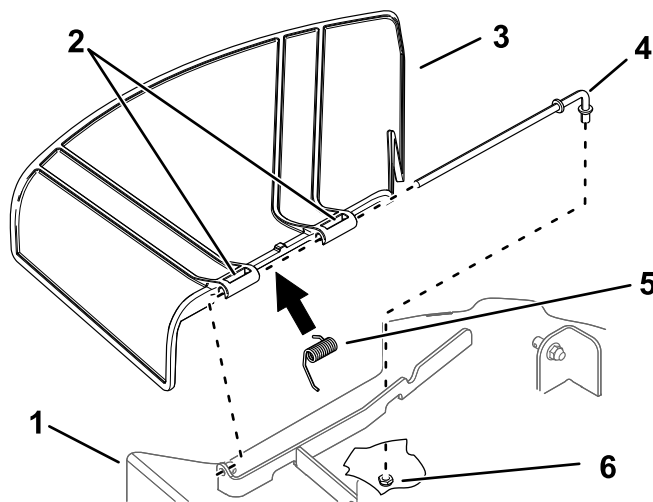

Figure 78
1. Remove the nut (3/8 inch) from the rod under the mower (Figure 78).
2. Slide the rod out of the deck bracket, spring, and grass deflector (Figure 78).
4. Install the new grass deflector (Figure 78).
7. Slide the rod through the second grass-deflector pivot (Figure 78).
9. Secure the rear end of the rod into the mower with a nut (3/8 inch) as shown in Figure 78.